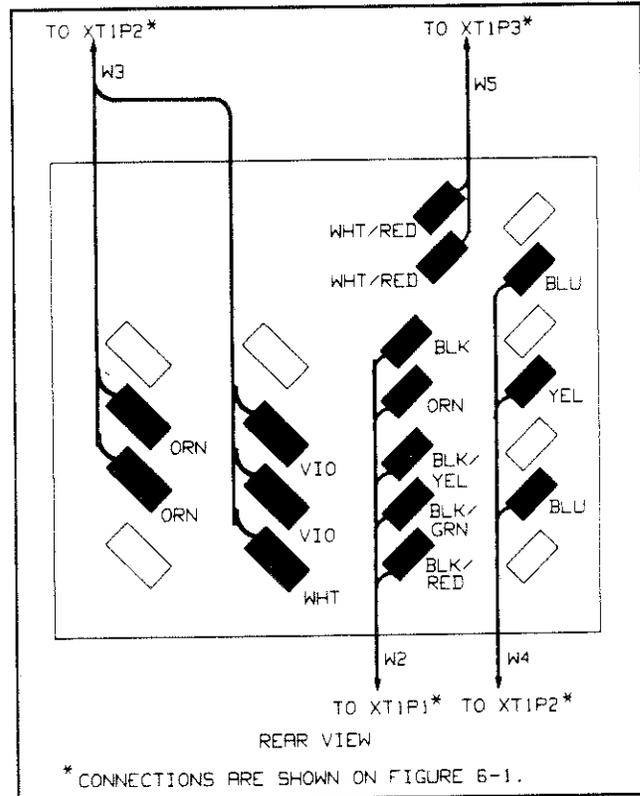

Figure 4-2. Transformer T1 Connections
- f. Disconnect all wires from the rear of the transformer. Note the routing of the cabling (for re-assembly) since position may affect the ripple performance of the power supply. Refer to Figure 4-2 when reconnecting the wires to the transformer.